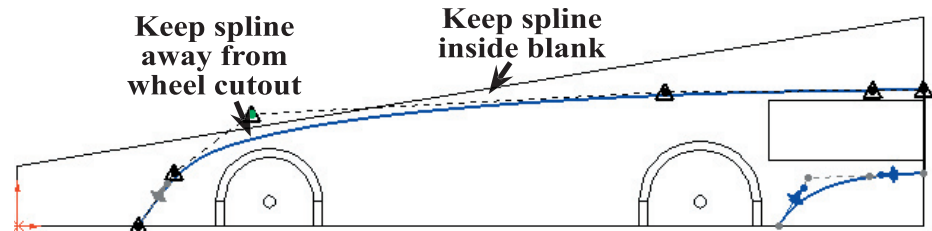

Fig. 30
Step 24. Click a gray Control Point to activate it and the Control Point turns yellow. Move the yellow Control Point to adjust spline. Adjust spline so it is inside the blank, **Fig. 30**.